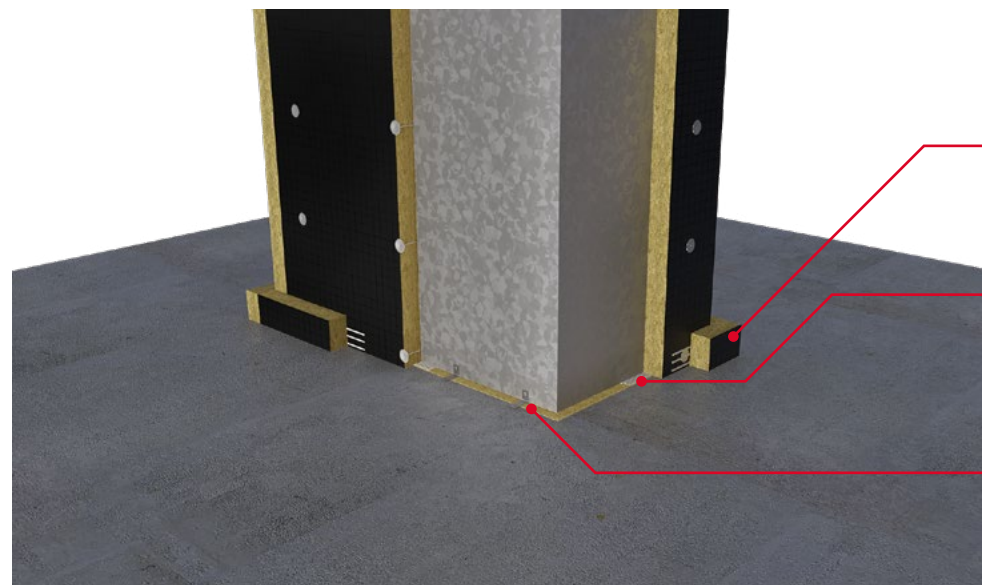

Figure 11a
1. Maintain a 30mm gap between the ductwork and floor structure. Fill the gap between the duct and the floor structure with a ROCKWOOL slab, e.g. ROCKWOOL RWA45 as shown in Figure 11a. The flexible slab can be sealed within the void using FirePro® Glue.
3. Apply a DuctRock® collar to the perimeter of the aperture and on both sides as shown in Figure 11a. The collars can be fixed using FirePro® Glue and temporarily held in place with nails until the glue cures.